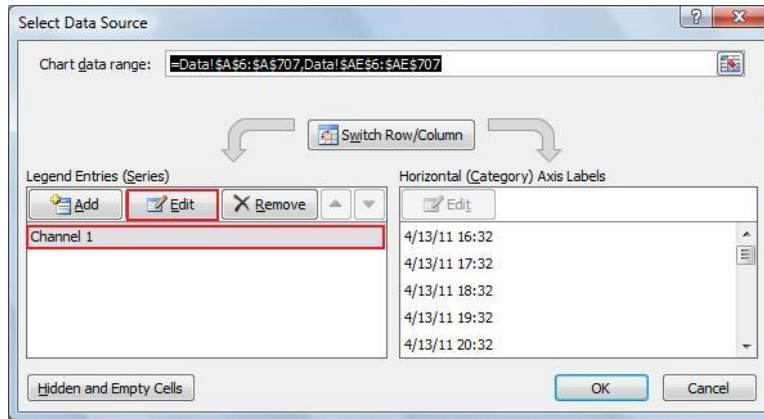

Figure 37: Accessing the Data Source Selection for a Plot
18. Select the data series and click edit, as shown in Figure 37.